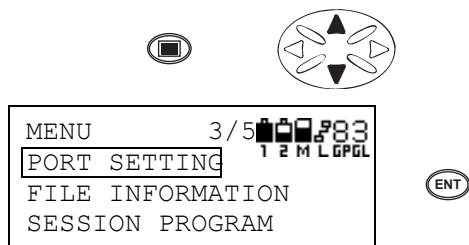

Figure 3-81. Initiate Menu Mode, Scroll to Port Setting, and Press Enter
1. Press the **menu** key to enter the menu mode. Press the **up/down cursor** key to select **PORT SETTING** and press **ENT** (Figure 3-81 on page 3-40).